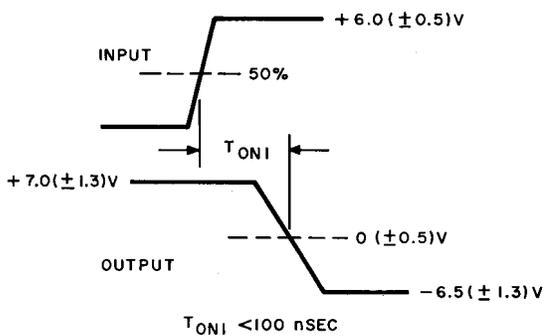

Fig. 42A — EIA Interface Test
- (1) Rotate the switch through positions 1 to 5. The input-output waveforms shall be as specified in Fig. 42A.